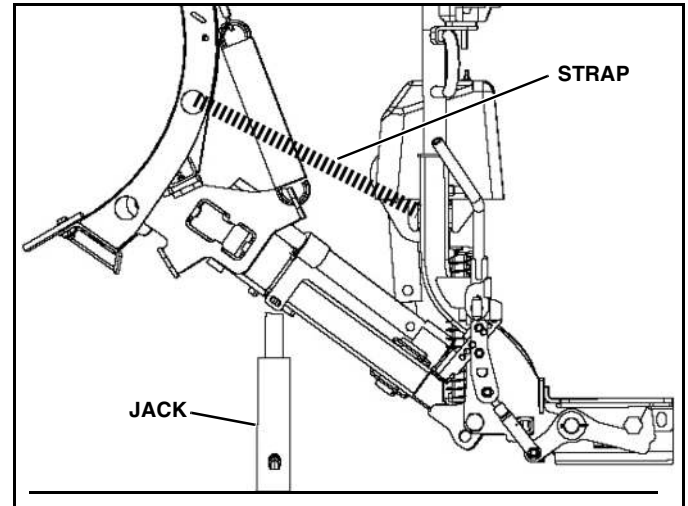

Figure 1-45
1. Set jack under plow. (See Figure 1-45).